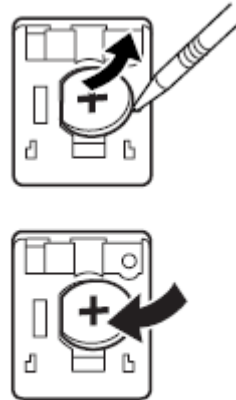

Fig. 2
3. Remove the exhausted battery and install one new lithium battery. Wipe the battery well with a dry cloth and place the plus "+" side upward. (Fig. 2)